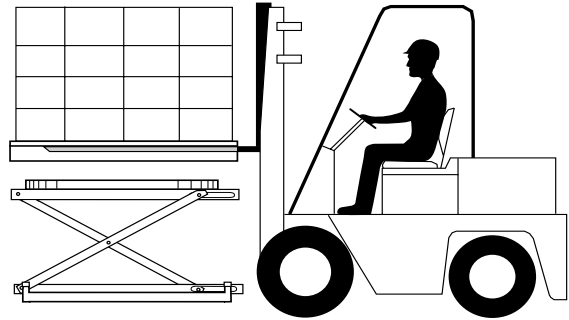

Figure 6. Unloading with a Fork Lift
1. Insert the forks into the pallet, and lift the pallet clear of the top of the unit. See Figure 6.